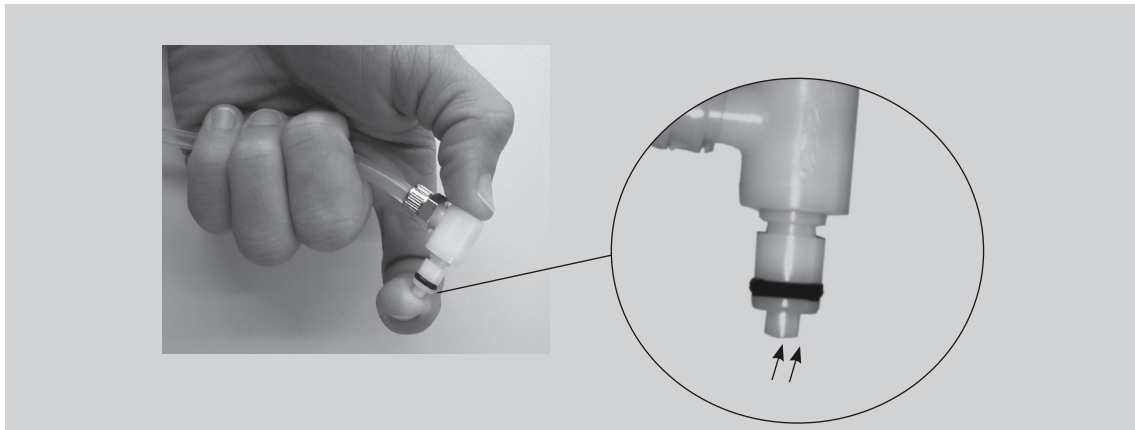

Fig. 4-9 Venting the connection tube
- After the water bag has been filled, there should be as few bubbles as possible in the connection tube. Press the closing valve inwards to let the air escape (Fig. 4-9) until the hose is fully filled with water.